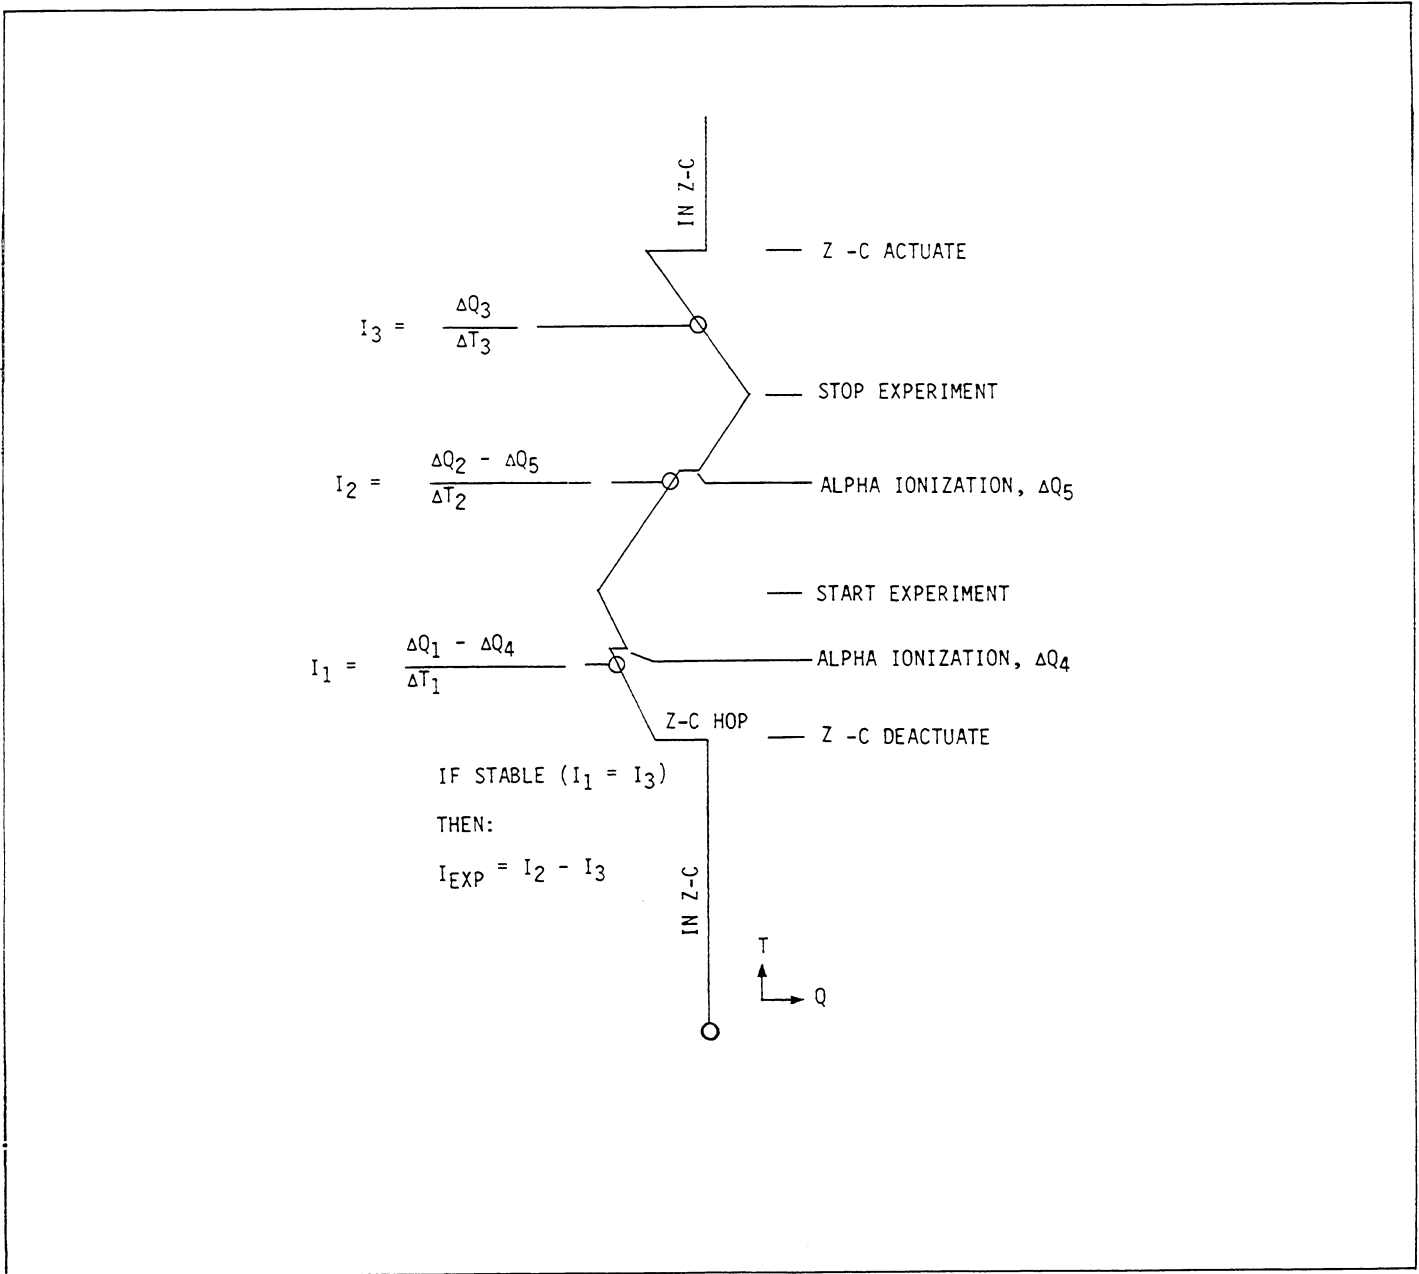

FIGURE 2-5. Current Measurements Using Charge Function and Chart Recorder
b. Using a chart recorder (refer to Figure 2-5).